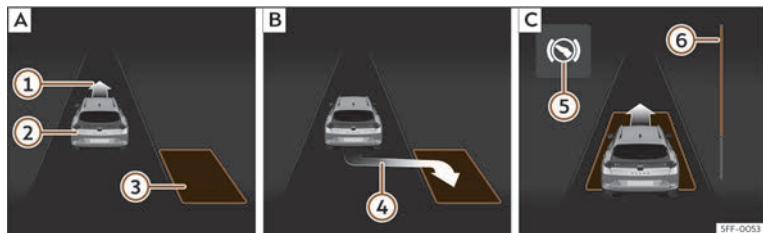
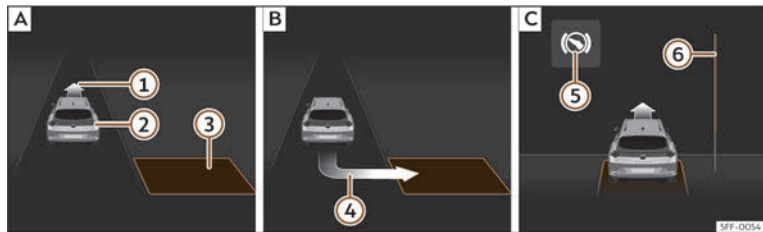

Fig. 151 On the instrument cluster display: parallel parking. **[A]**: Finding a parking space **[B]**: Parking position. **[C]**: Manoeuvring.
Fig. 152 On the instrument cluster display: angle parking. **[A]**: Finding a parking space **[B]**: Parking position. **[C]**: Manoeuvring.
- Look at the instrument cluster screen to see if the space has been detected as “appropriate” and if the correct position for parking has been reached >>> **Fig. 151 [B]** or >>> **Fig. 152 [B]**. The space is considered “appropriate” if the instrument cluster display shows the parking indication ④.
- Reverse until the continuous ParkPilot signal sounds; **OR:** reverse until the indication to move forward appears on the instrument panel display >>> Fig. 151 [C] or >>> Fig. 152 [C]; **OR:** reverse until the **Park Assist finished** message appears on the instrument cluster display. The progress bar [E] indicates the distance to cover.
- Move forward until the continuous ParkPilot signal sounds; **OR:** move forward until the reverse indication appears on the instrument panel display. The Park Assist system steers the vehicle forward and back until it centres it in the space >>> Fig. 151 [C] or >>> Fig. 152 [C].
The progress bar >>> Fig. 151 [E] and >>> Fig. 152 [E] on the instrument cluster display shows the relative distance to be covered as a symbol. The greater the distance, the fuller the progress bar. When driving forward, the content of the progress bar decreases upwards, and when reversing, it decreases downwards.